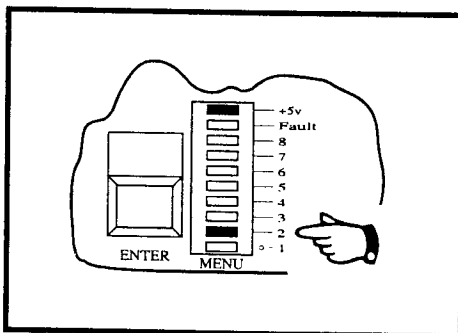

Figure 3-7
- (b) Press the **FUNCTION** key **TWICE**. The LED segment labelled **2** on the **Menu** display should illuminate. This identifies the SPAN menu function. See Figure 3-7.
- (h) Press the blue **FUNCTION** key **ONCE**. The segment labelled **2** on the **Menu** display should illuminate. This segment identifies the SPAN menu function. See Figure 3-7.
- (b) Press the blue **FUNCTION** key **TWICE**. The **Menu** display should cease scrolling and the segment labelled **2** should illuminate. This segment identifies the SPAN menu function. See Figure 3-7.